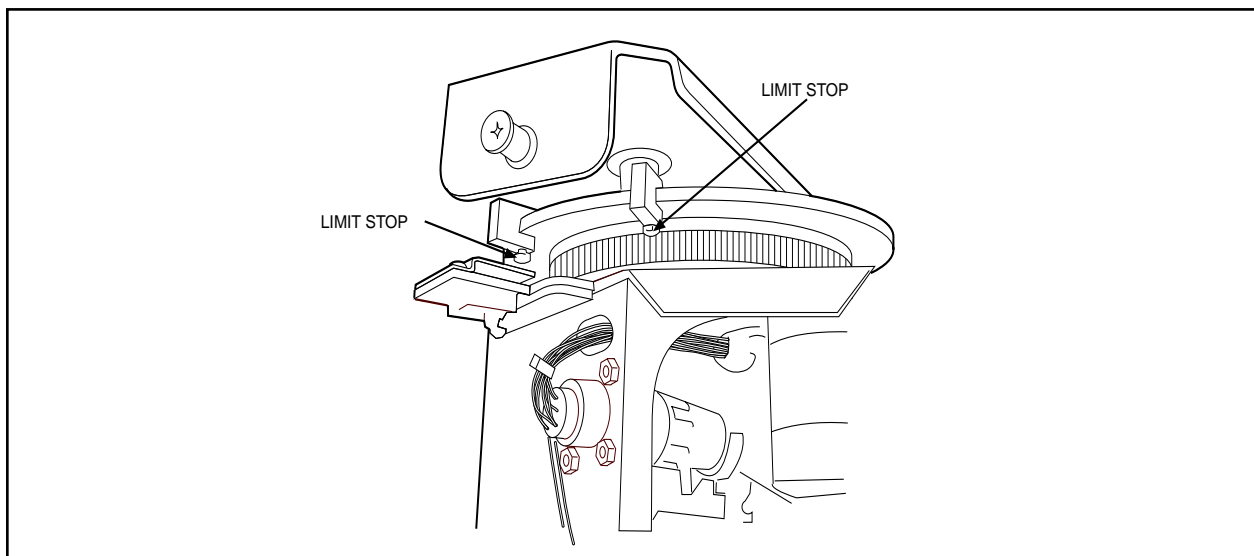

Figure 1. Pan Limits Stops (Only Two Shown)
3. **DD08C2L and DD08E2L Models Only** - The dome drives are capable of 360° rotation. However, pan limit stops have been installed at the factory on the pan gear that limit the rotation to 355°. If you prefer 360° rotation, remove three the pan limit stops (refer to Figure 1) using a 5/64" Allen wrench and 1/4" wrench. If you prefer to use the pan limit stops, you will adjust them later in this procedure.